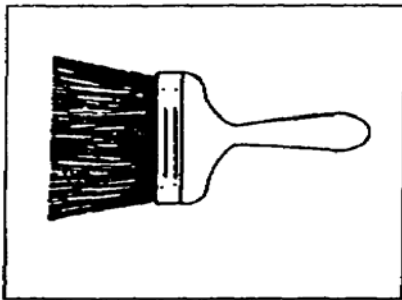

Figure 3-24. Flat wall paintbrush
(1) Common materials for paintbrushes are hog bristle, nylon, and horsehair
(2) Paintbrushes are available in various sizes and shapes. They are used for the following special purposes:
- Large surfaces. Use paintbrushes that measure from 3 to 6 inches wide to apply paint or stain to large wall surfaces (interior or exterior). Flat wall paintbrushes (Figure 3-24) are 3/4 to 1 1/2 inches thick and have bristles from 2 to 7 inches long. Large-surface paintbrushes are usually square-ended and square-edged, with the natural bend of the bristles bending toward the center.